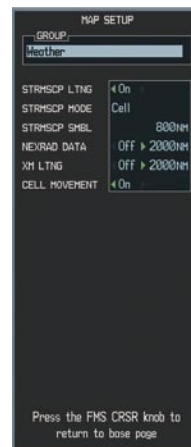

Figure 8-4 Weather Group Map Setup Menu
3. Press the **MENU** key. The page menu is displayed with 'Strike Mode' or 'Cell Mode' highlighted (Figure 8-4). Press the **ENT** key on the desired selection.